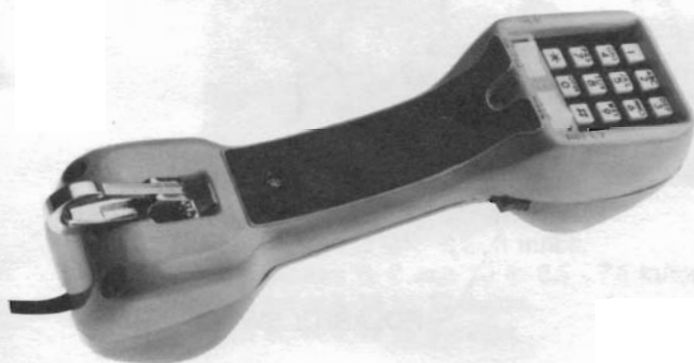

Fig. 1 - TS21 Craft Test Set
1.03 The Dracon TS21 Craft Test Set (Figure 1) is a modern self-contained line-powered combination handset used by installers, repairmen, linemen, and other telephone personnel for line testing and for temporary communications.